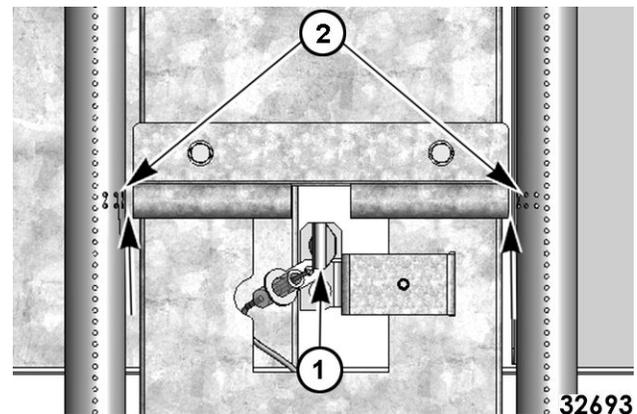

Fig. 17
4. With pilot (1, Fig. 17) centered in flash tube opening, center align ignition ports with both sides of flash tube (2, Fig. 17). Verify 1/8" gap between the end of flash tube and burner on both sides.